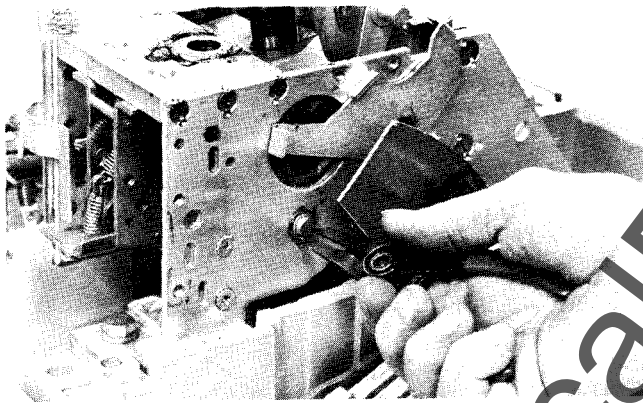
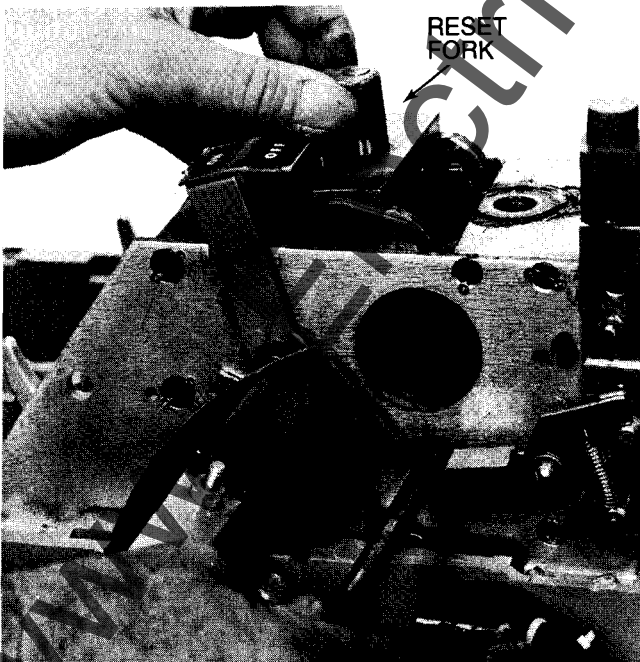

Figure 10.
Figure 11.
3. Remove the pivot pin retaining ring Figure 10, drive the pin out of the mechanism, and lift out the reset fork. Figure 11.
1. Slide the reset fork into the mechanism as shown in Figure 11 with the roller facing towards the cam pivot block.
2. Install the reset fork pivot pin and its retaining ring. See Figure 10.